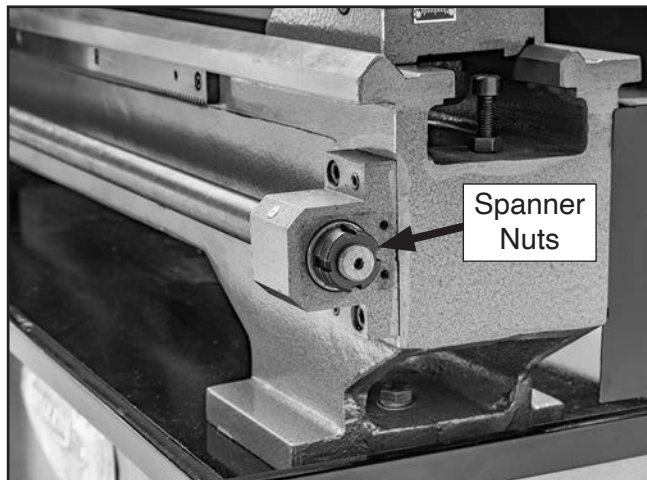

Figure 123. Location of leadscrew spanner nuts.
3. Loosen outer spanner nut shown in **Figure 123**.
4. While holding inner spanner nut in place (see **Figure 123**), rotate carriage handwheel to move carriage toward tailstock until there is 0.001"–0.002" of end play.